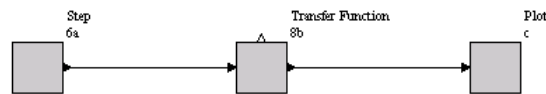

Figure 1: Setting up and connecting the blocks
Step 1: Place the **Step**, **Transfer Function** and **Plot** blocks on the workspace. Connect them as shown in figure 1. Note that the **Plot** block is located in the group of permanent blocks to the left side of the J-DSPC window.